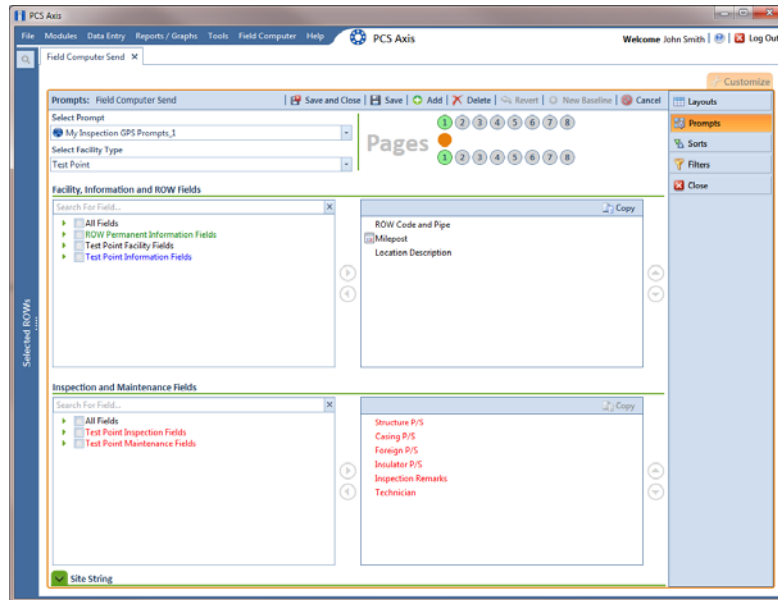

Figure 7-33. Prompts
- 9 Verify the name of the new theme displays in the **Select Prompt** field. If not, click the down arrow and select the theme in the selection list (Figure 7-33, page 316).
11 To add information prompts, follow these steps (Figure 7-33):
- a Click the  **Site String** and then double-click  **All Fields** in the left pane to view a list of fields available for selection (Figure 7-33, page 316).